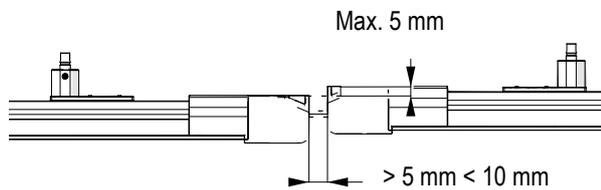
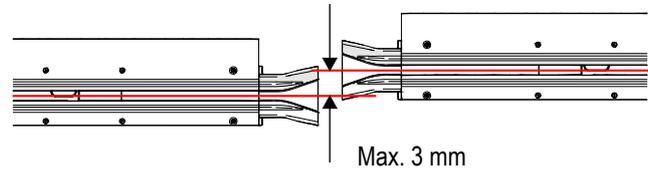

Fig. 115: Distance horizontal (view from above)
Fig. 116: Distance vertical (view from side)
- Distance of the opposing transfer guides is max. 10 mm in X-axis (travel direction) (see Fig. 115)
- Height offset (Y axis) max. 3 mm (Fig. 116) and side offset (Z-axis) max. 5 mm (Fig. 115)